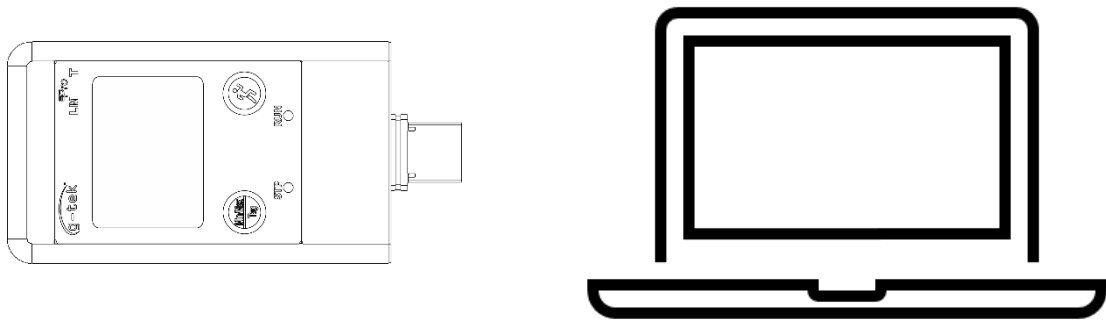

Figure 11 USB Type-A connection
- Connect the LM^{Pro} T data logger with Windows PC via the USB port, as shown in figure 11.